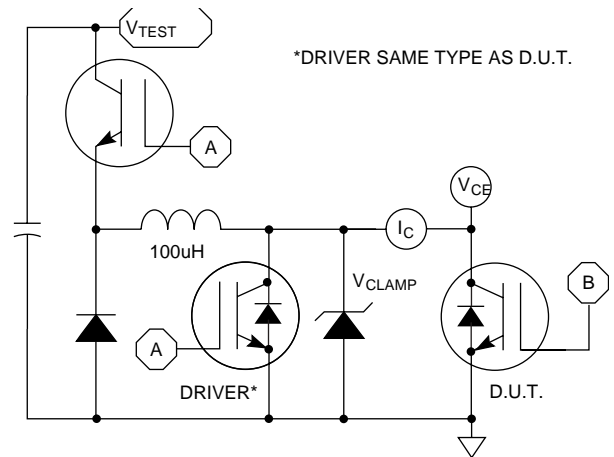

Figure 24. E_{ON1} Test Circuit
- ① Repetitive Rating: Pulse width limited by maximum junction temperature.
- ② For Combi devices, I_{ces} includes both IGBT and FRED leakages
- ③ See MIL-STD-750 Method 3471.
- ④ E_{on1} is the clamped inductive turn-on-energy of the IGBT only, without the effect of a commutating diode reverse recovery current adding to the IGBT turn-on loss. (See Figure 24.)